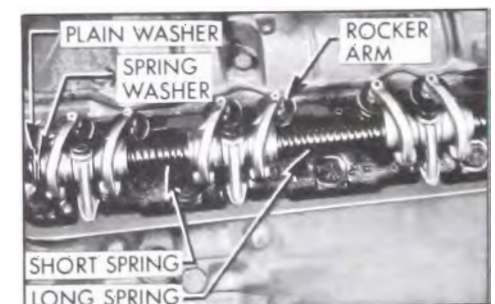

Figure 2-23—Rocker Arm and Shaft Assembly
3. Assemble springs, rocker arms and brackets on shaft as shown in Figure 2-23. Note that the long spring is at middle of shaft, the valve ends of all rocker arms slant toward middle of